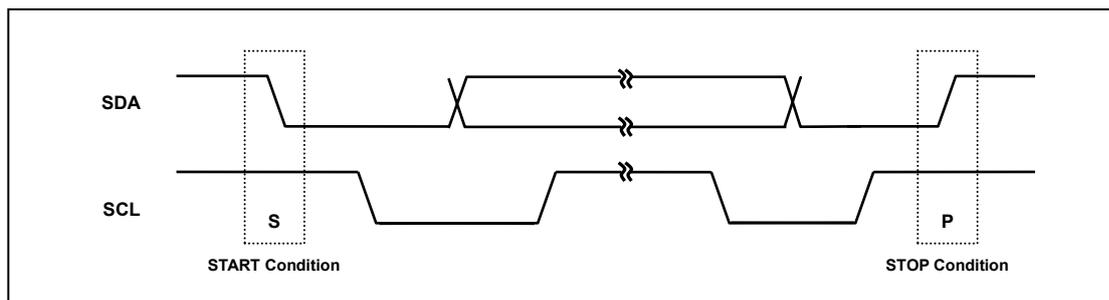

Figure 15.6. START and STOP condition
Within the procedure of the I²C-bus, unique situations arise which are defined as START(S) and STOP(P) conditions (see Figure 15.6.).